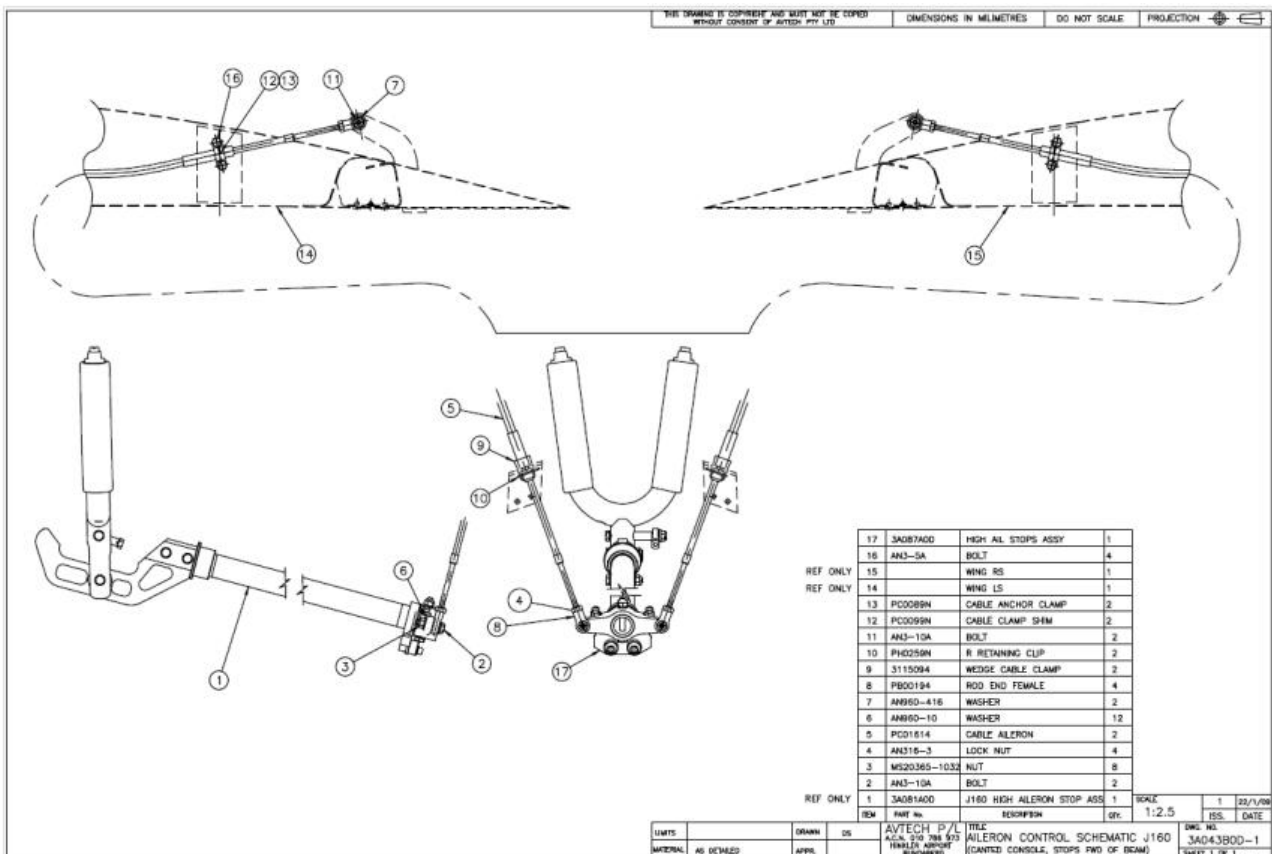

Figure 55 – Aileron System Schematic – Type 3.
- Refer to drawings below: **Error! Reference source not found.**, **Error! Reference source not found.** and Figure 55.